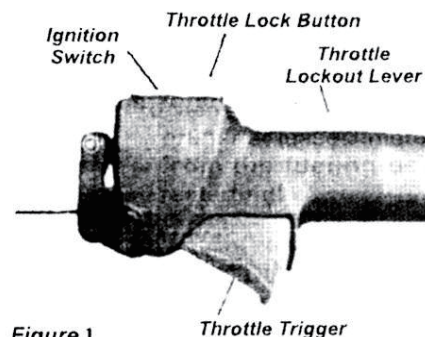

Figure 1
1. Set the throttle trigger to "fast idle" as follows (Figure 1):